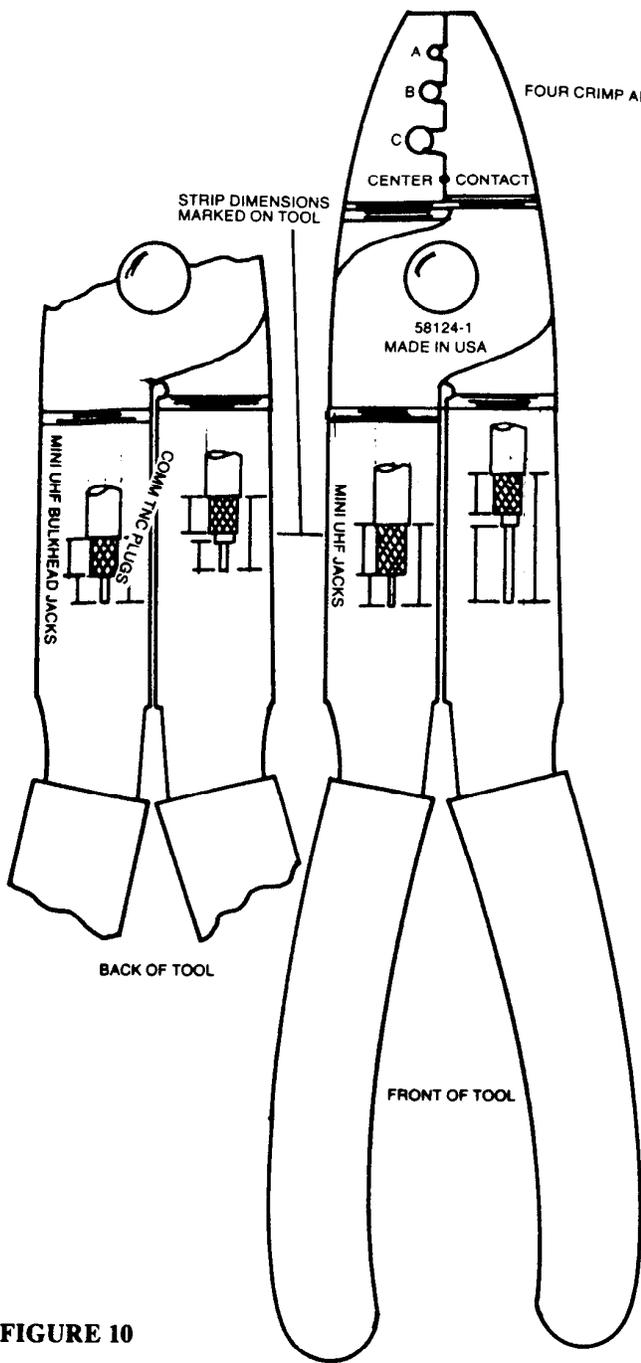

FIGURE 10
- Step 4. Crimp center contact using proper crimp section of tool. See figure 10 marked center contact.
- Step 6. Push ferrule over braid until flange butts against connector body. Refer to Figure 12. Using correct crimp area of tool, crimp ferrule close to plug body. See figure 10 crimp location "C" RG58. Crimp ferrule a second time close to cable end, using RG-58 crimp area of tool.